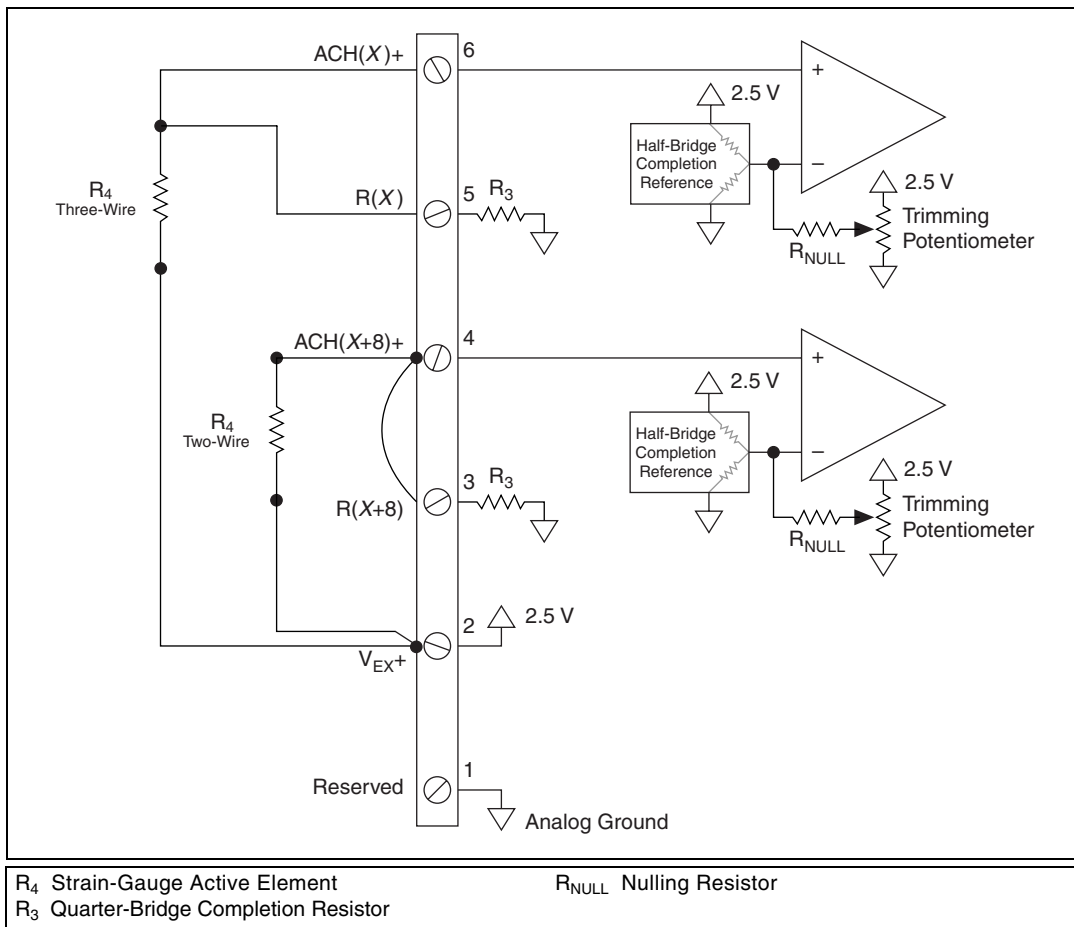

Figure 5. SCC-SG01/02 Quarter-Bridge Configuration Connection (Two Channels)
Figure 5 shows how to set up two quarter-bridge type I configurations with the SCC-SG01/02.
Connect the two-wire strain-gauge element leads to ACH(X) and V_{EX+} . For a three-wire strain-gauge, connect the two-wire lead to ACH(X)+ and R(X), then connect the single lead to V_{EX+} . Figure 5 shows two quarter-bridge configurations using ACH(X) and ACH(X+8) with a three-wire strain-gauge connected to ACH(X) and a two-wire strain-gauge connected to ACH(X+8). If you are using a two-wire strain-gauge, short the ACH(X) or ACH(X+8) screw terminal with the corresponding reference screw terminal, R(X) and R(X+8).